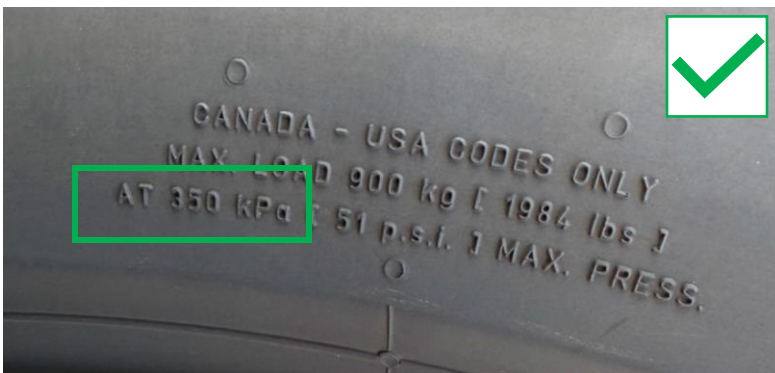

Figure 3 – OK specified pressure (350 kPa)
- b. If the above-mentioned tires have a **350 kPa (51 PSI)** (**Figure 3**) inscription on the side wall: Do **not replace** tires and **End Measure**.